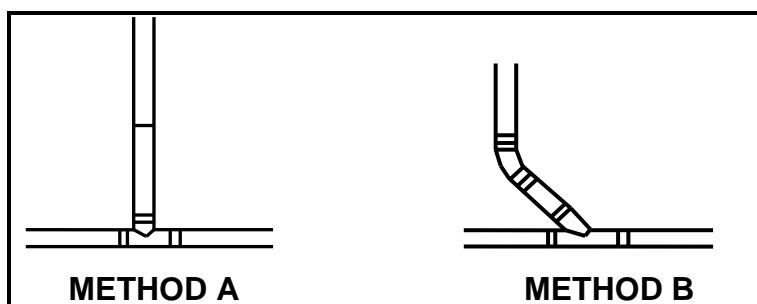

FIGURE 3.4
3.4 FIGURE 3.4 below shows two methods used for the connection of sewerage pipes. Study the drawing and answer the questions that follow.